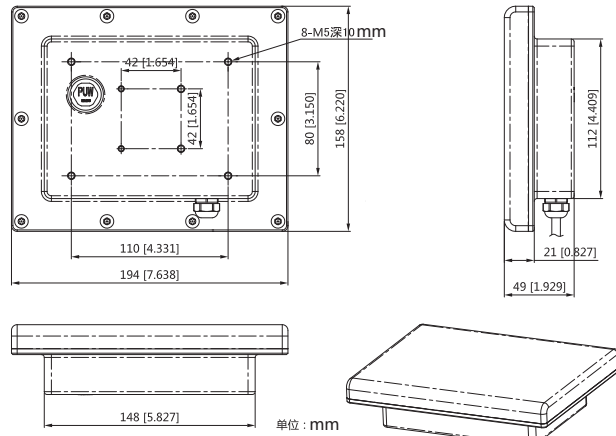
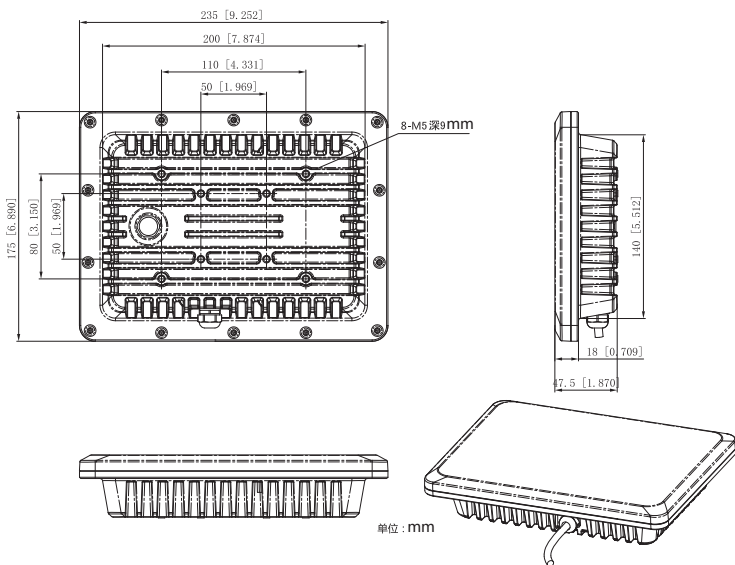

Fig. 2-2
Fig. 2-3
- The following dimension figures are for reference only. Unit: mm. Fig2-2 is for SMWR02A and Fig2-3 for SMWR03A